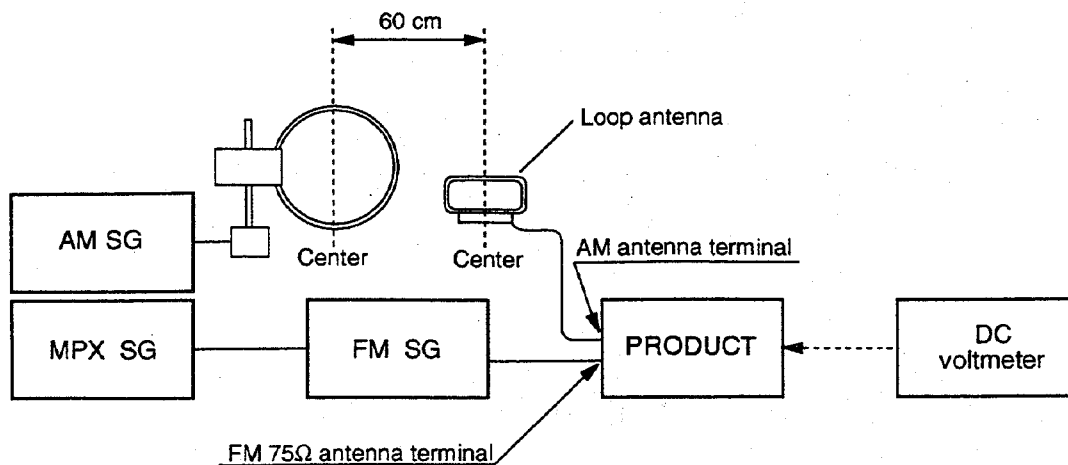

Fig. 1 AM and FM adjustment wiring diagram
- Connect the wiring as shown in the Fig.1.